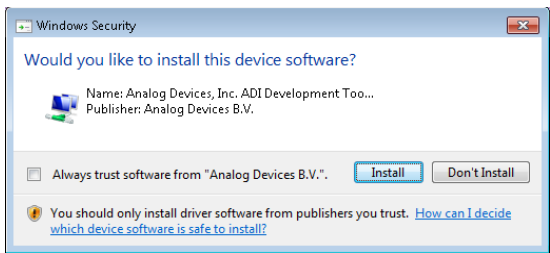

Figure 8. Windows Security Dialog Box
3. Click Install again to proceed with the installation (see Figure 8).